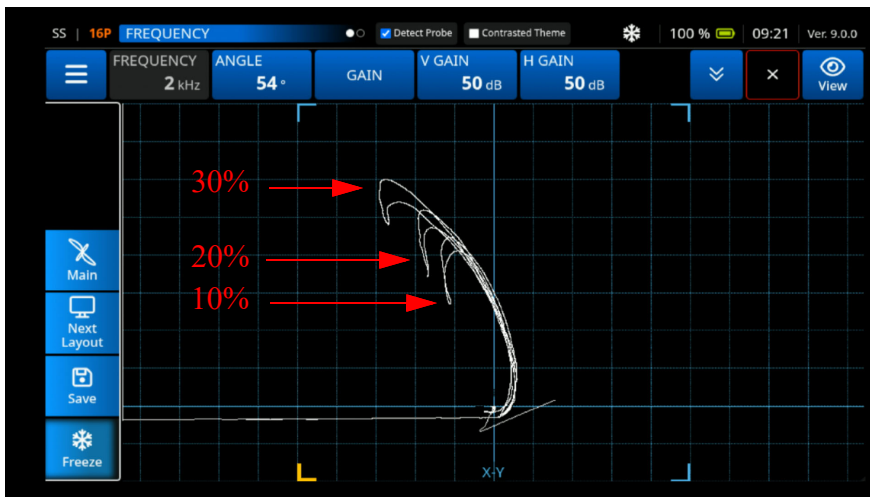

Figure 3-58 Adjusting the Sensitivity Setting
7. Scan the three corrosion spots and press **Freeze** (See Figure 3-58 on page 86).